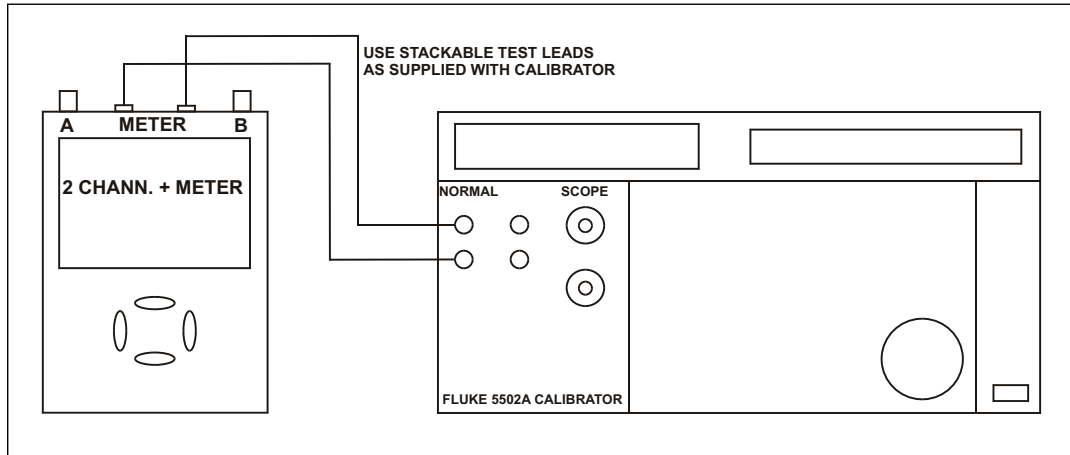

Figure 4-13. Test Tool Meter/Ext Input to 5502A Normal Output
1. Connect the Test Tool to the 5502A as shown in Figure 4-13.
4. Connect the Test Tool to the 5502A as shown in Figure 4-13.